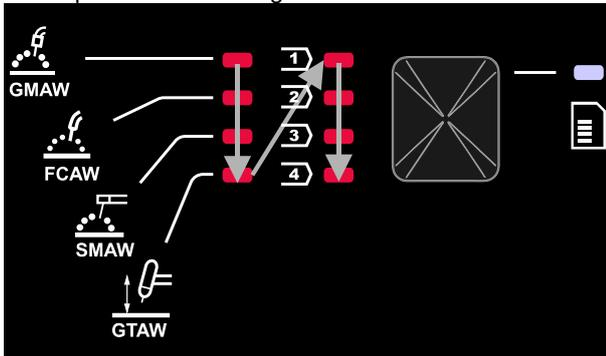

Figure 5
- Again, press the Left Button [21] the welding programs indicator (22 or 23) will pass to the next program in the sequence shown in Figure 5.